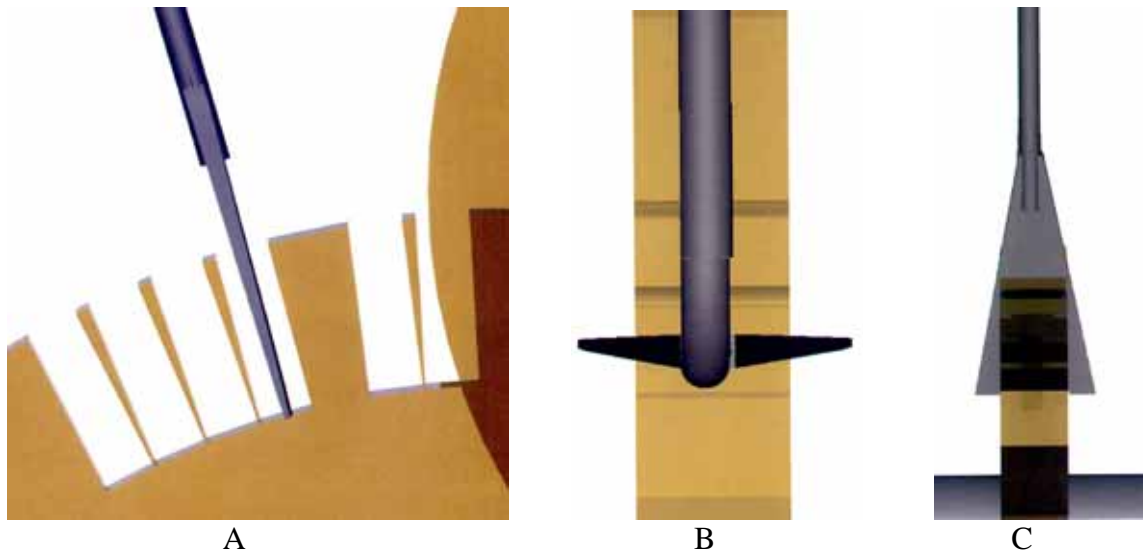

Figure 42: Correct attitude of count lever: **A**- radial and in the middle of a stop notch; **B** & **C**- square in all directions.
Reshape the end of the count lever (C) until the action brings it in the middle of the stop notch in the count wheel (K). You may have to lengthen or shorten the arm of the lever by using a pair of round-nosed pliers at the bend. To make the arm longer, use the fat part of the pliers and squeeze. To make it shorter use the narrow part of the pliers and twist. This will enable you to hit a different notch at a more optimal angle. The count lever (C) must also be true side to side. It should hit the stop notch in the middle of the paddle, be square in all directions, and be on a radius of the count wheel (K). (See figures 42 - 43.)